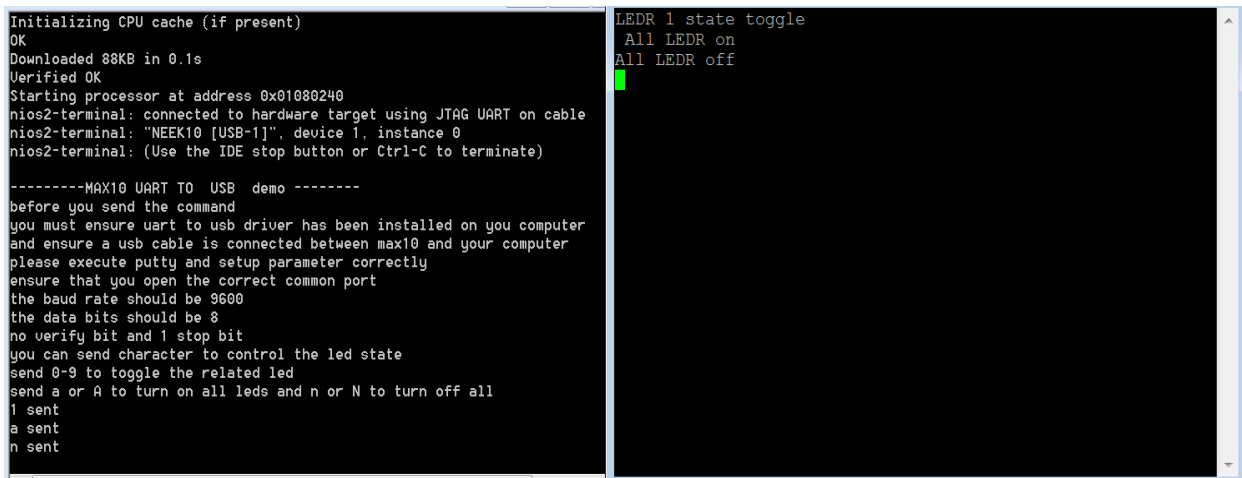

Figure 6-11 Running Result of Uart_USB Demo
- The result of Nios II-terminal and putty terminal is shown in **Figure 6-11**.